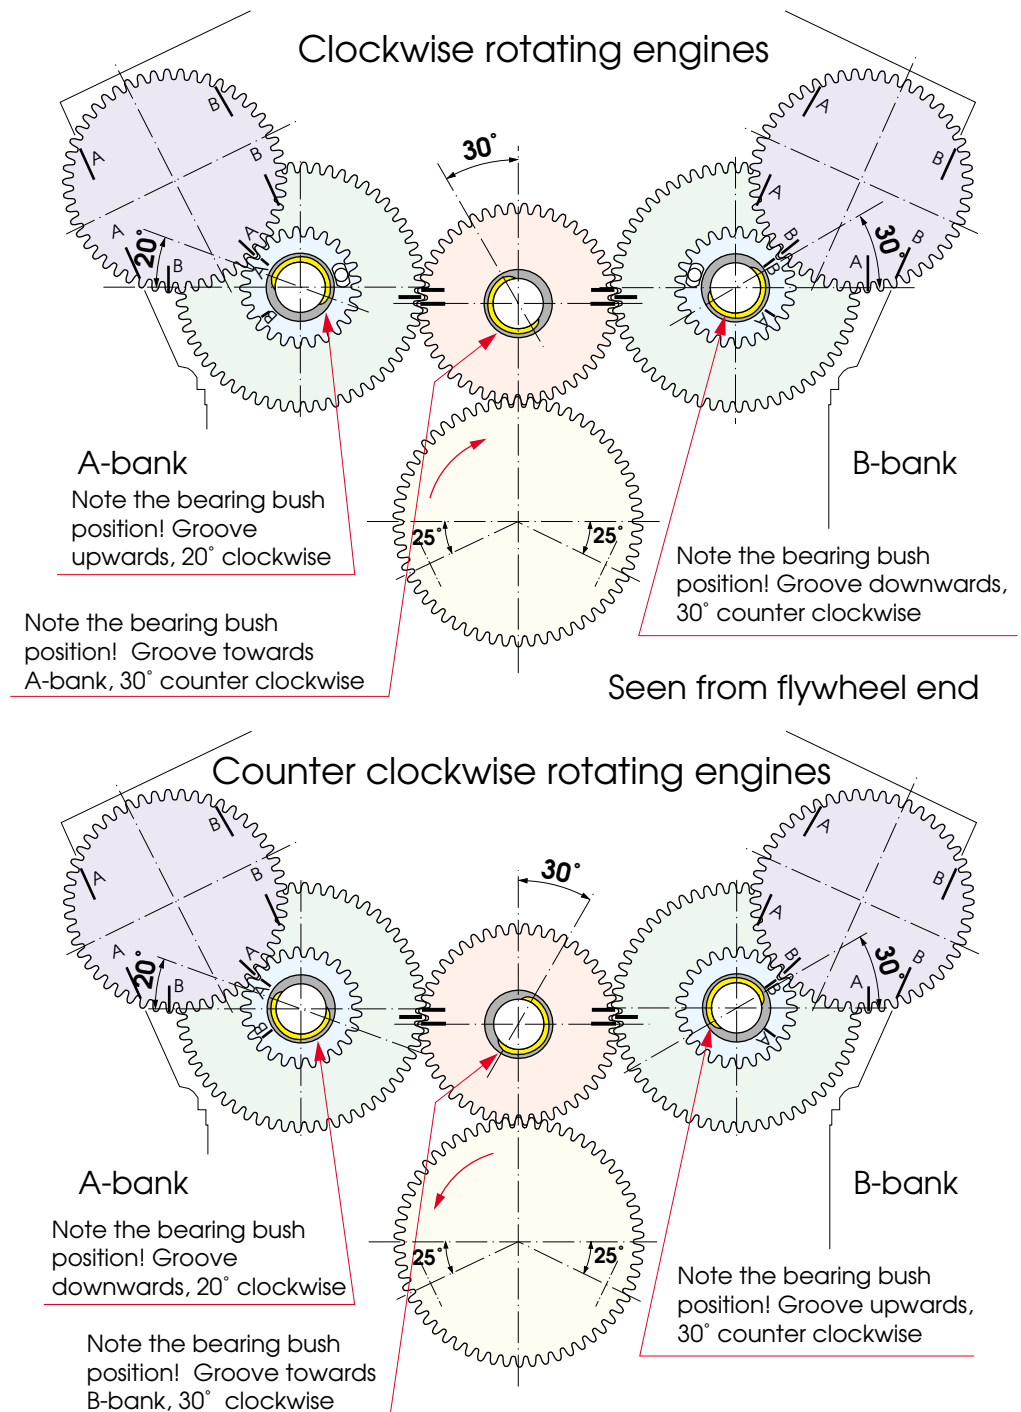

Fig 13-2
Note! Insert the intermediate gear wheels and bearing bushes according to the marking of the wheels, see Fig 13-2.
13 To get the intermediate wheels (10) and (3) into the correct position, mark the meshing teeth of both wheels (10) and (3) with a pencil acc. to Fig 13-2. (The wheel (10) can be marked before mounting by marking the third tooth downwards from a line drawn from the centre point of gear wheel (10), through the dowel pin in the wheel (10)).
20 Lift the camshaft driving wheel (12) into position. The marks on the wheels should be aligned with the edge of the engine block according to Fig 13-2.